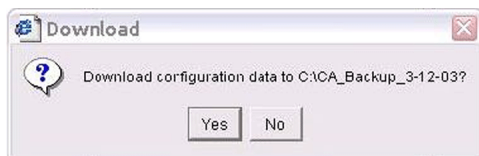

Figure 32: Continuous Access user interface Download window
4. Select the folder you created for the Continuous Access EVA configuration backup file and click **Save**. A Download window opens (Figure 32).